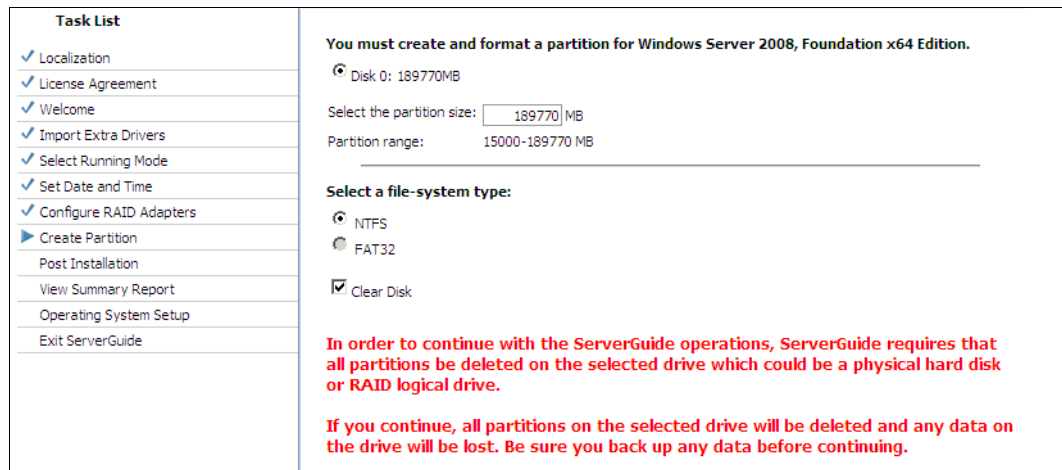

Figure 6-20 Selection for format and partition
13.You must now create and format a partition. Choose your selection and click **Next** to start the process, as shown in Figure 6-20.